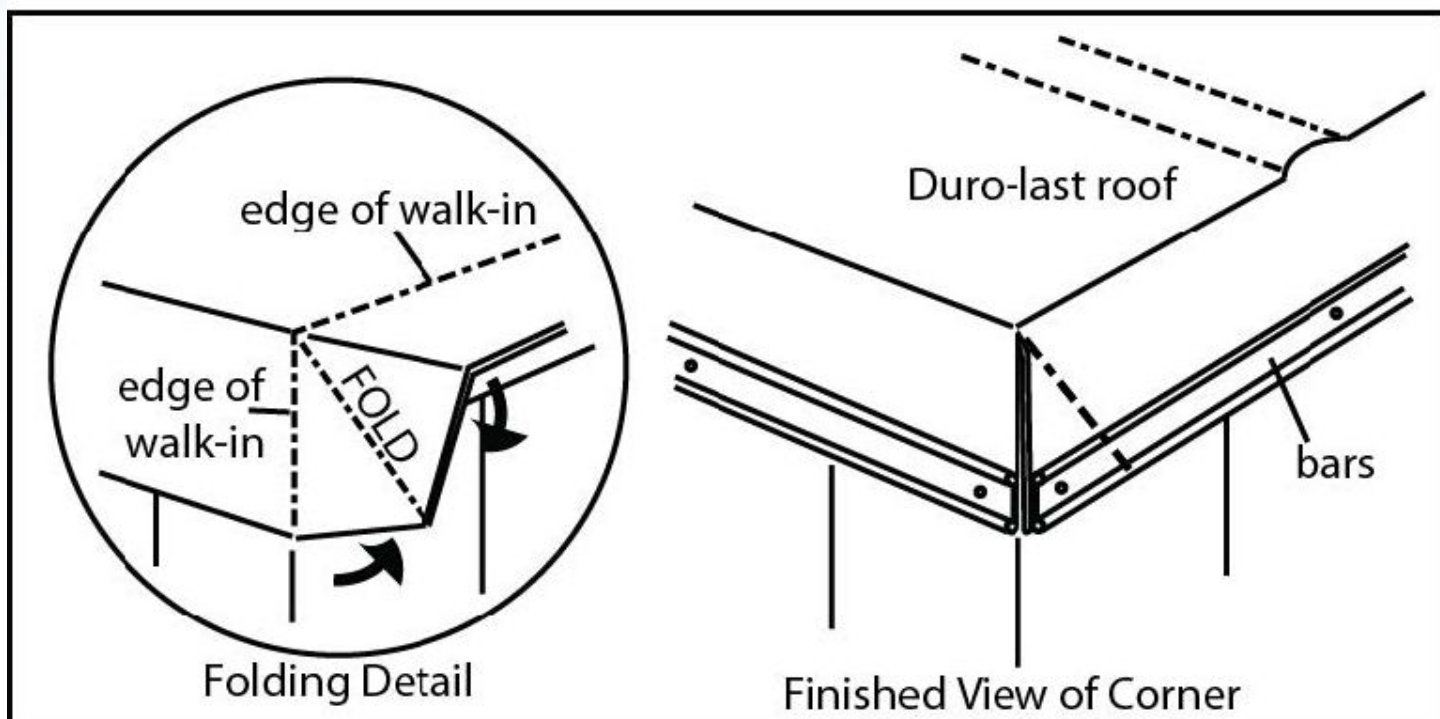
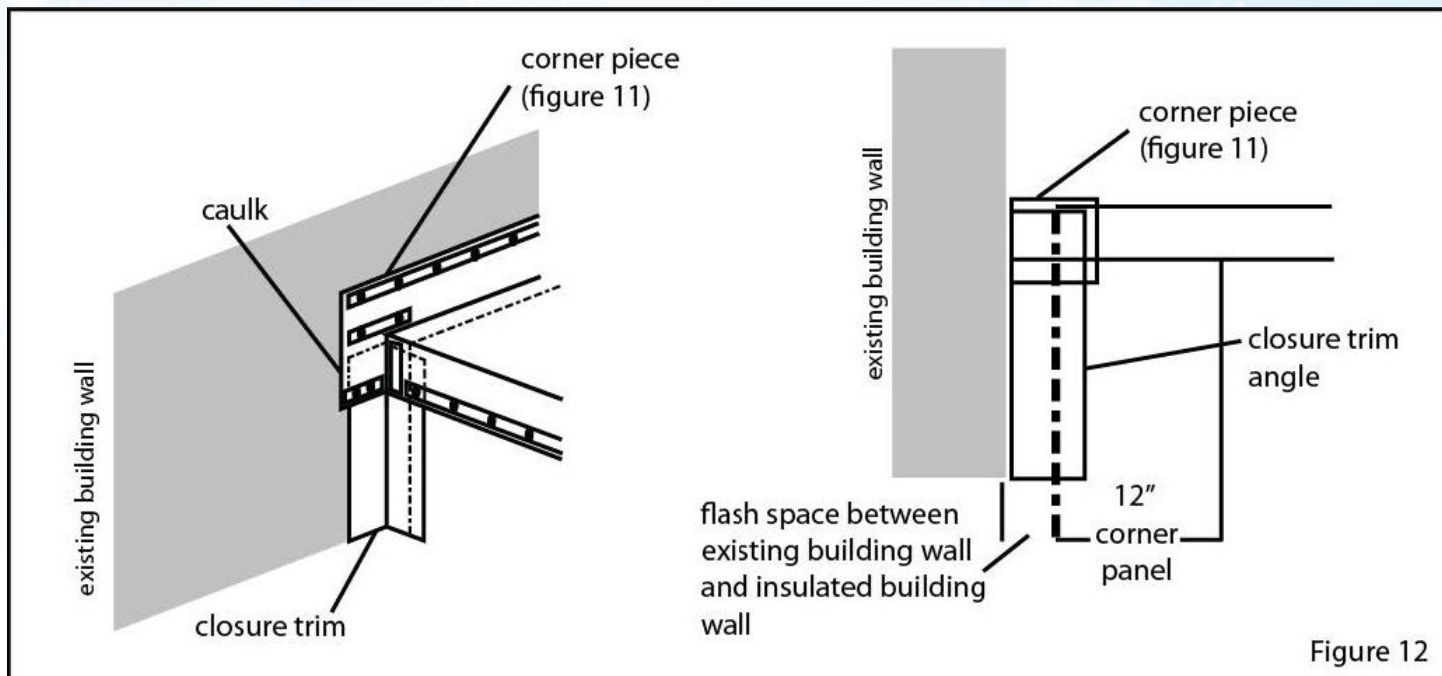
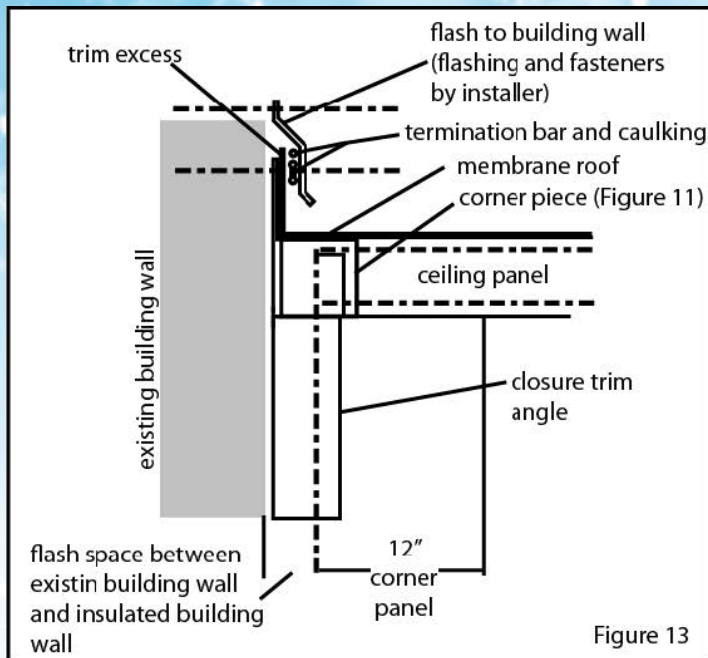

Figure 7
Figure 12
Figure 13
4. On page 2, find correct chalk line dimension. Complete installation of roofing material on ceiling panels, following instructions on pages 4 and 5. Flash roof material to building wall following Figure 13. At corners abutting the building, make a horizontal cut in the roof material. Fold material down. Follow Figure 12. Complete installation of termination bars and caulking, following pages 4 and 5.
5. Flash roof material to building wall following Figure 13.
6. At the corners abutting the building, make a horizontal cut in the roof material. (Follow Figure 12)
7. Flash roof material to building wall following Figure 13. See Figure 7 for method of folding corner.
8. At corners abutting the building, make a horizontal cut in the roof material. Fold material down. Follow Figure 12.